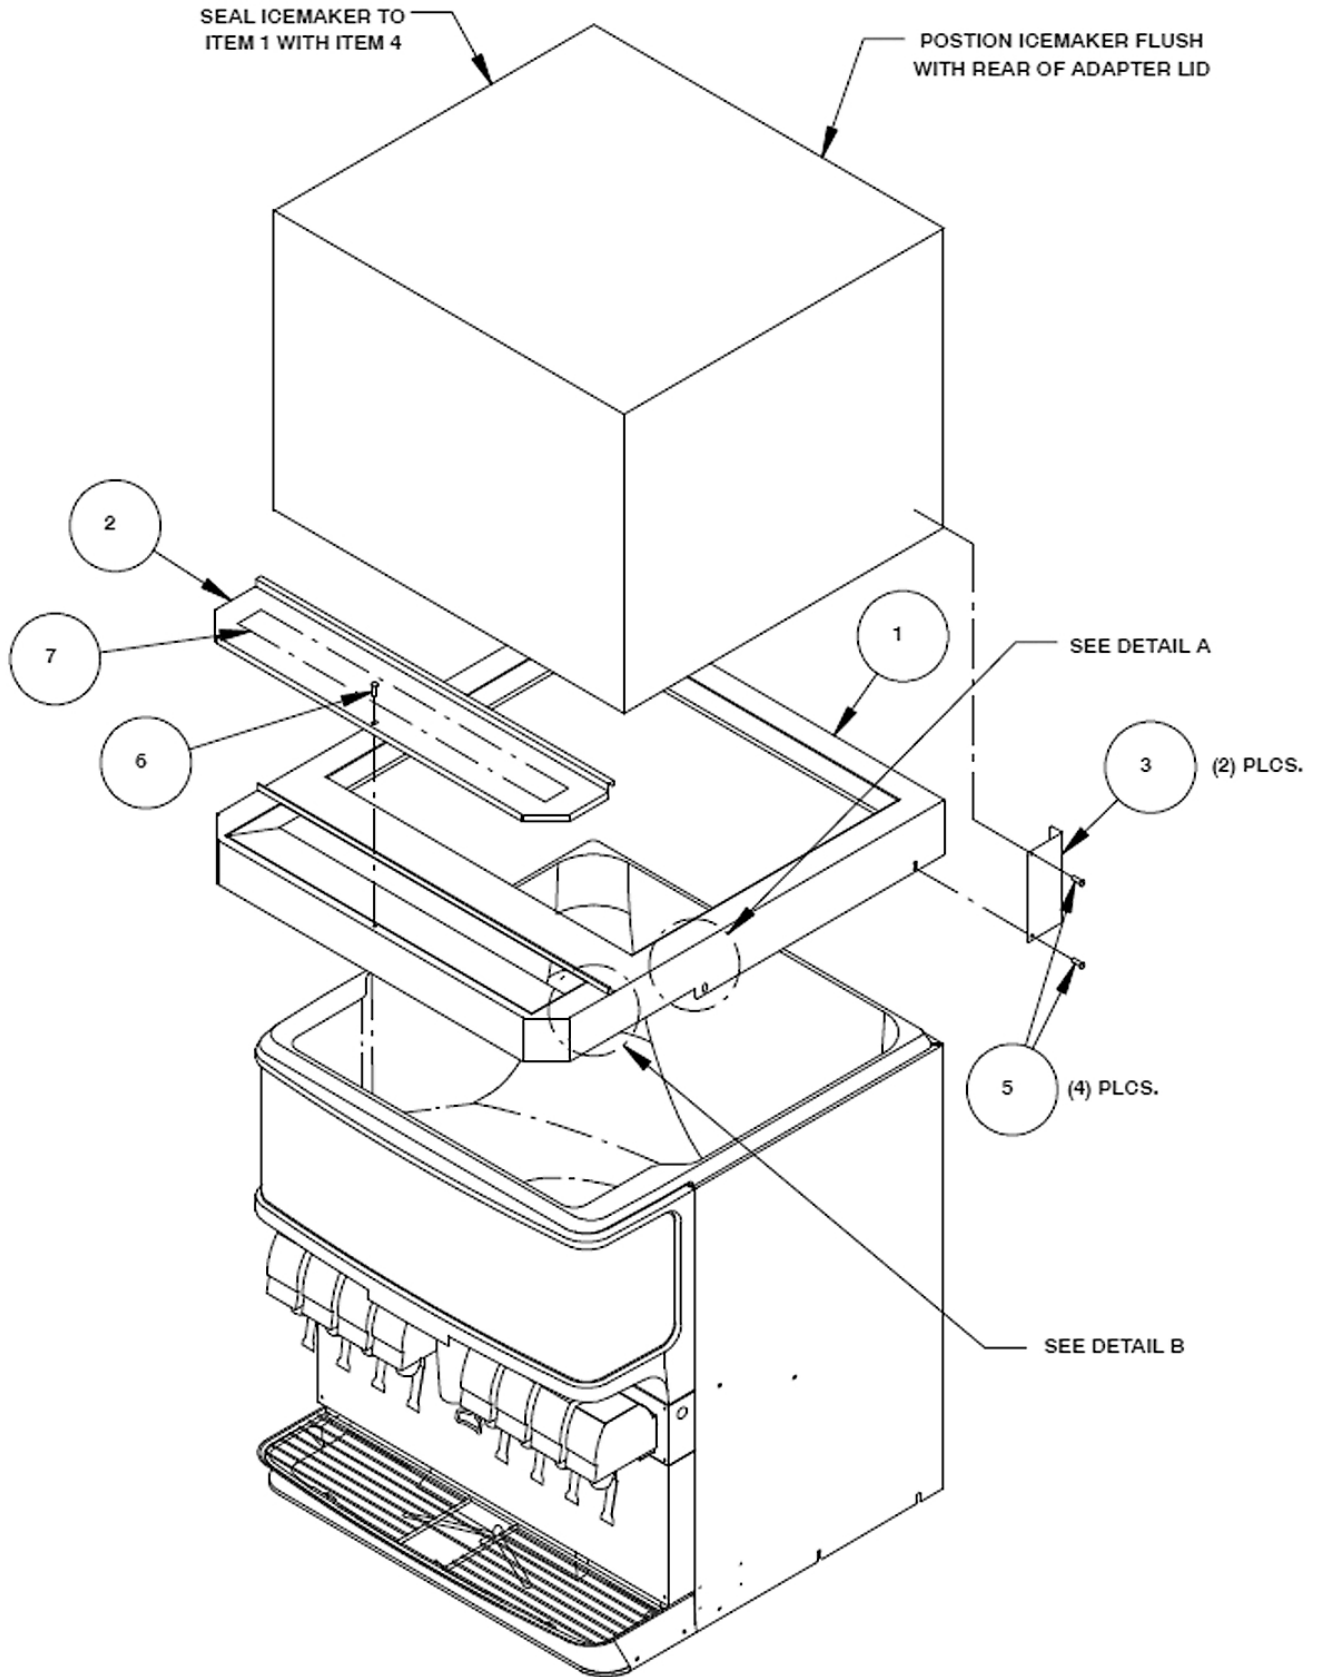
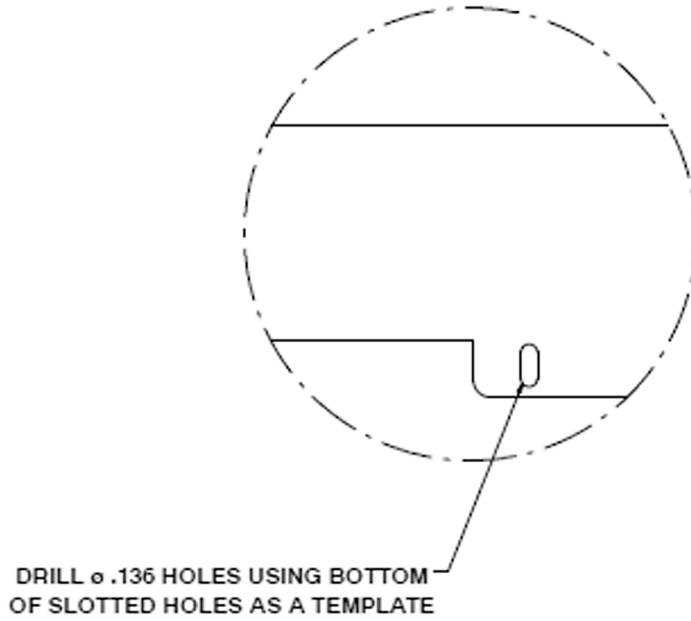
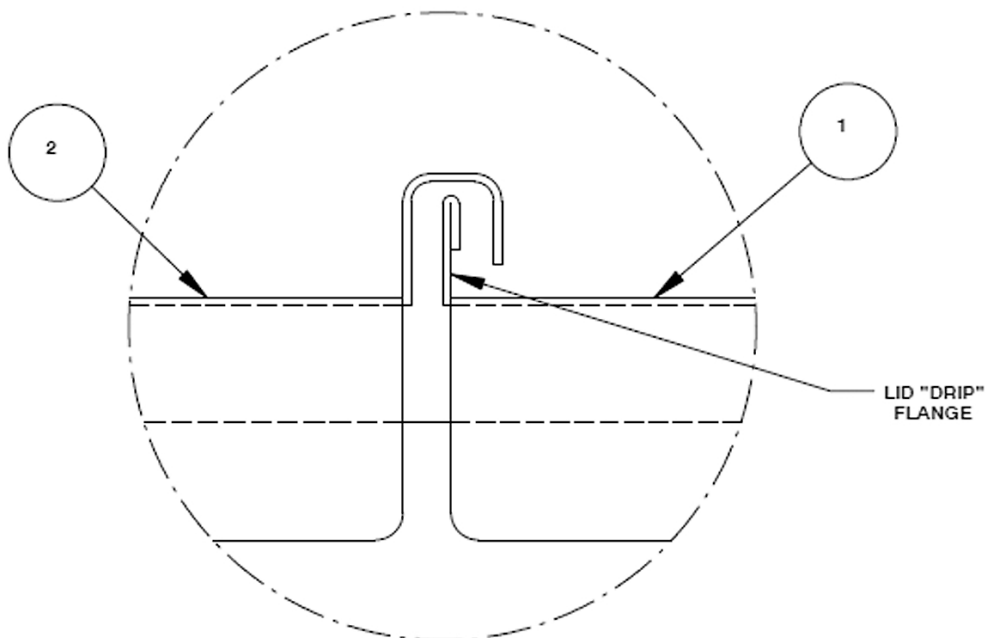

Figure 1. Ice Maker Installation
Figure 2. Enlarged view of Detail A
Figure 3. Enlarged view of Detail B
2. Install the ice maker adapter lid as shown in Figure 1. Using the slotted holes in the lid as a template, drill four (4) 0.136" diameter holes at the bottom of the slots (refer to Detail A in Figure 2) into the dispenser cabinet. Secure the lid to the cabinet with four (4) No. 10 sheet metal screws provided in the kit.
3. Seal the ice maker to the dispenser adapter lid as follows (refer to Figure 1).
4. Secure the ice maker to the dispenser with two (2) brackets provided in the kit. Mount the brackets to the dispenser lid using the two rear screws, as shown in Figure 1. Using the brackets as templates, drill 0.136" diameter
6. Install the caution label on the manual fill cover as shown in Figure 1. Secure the cover in position over the front bin access opening by placing it over the drip flange lid on the lid (refer to Detail B of Figure 3). Note that with the cover installed properly, it is held in position by the lid drip flange and cannot be removed without first lifting it over the drip flange. Secure the manual fill cover to the adapter lid with the No. 8-32 thumb screws provided in the kit.